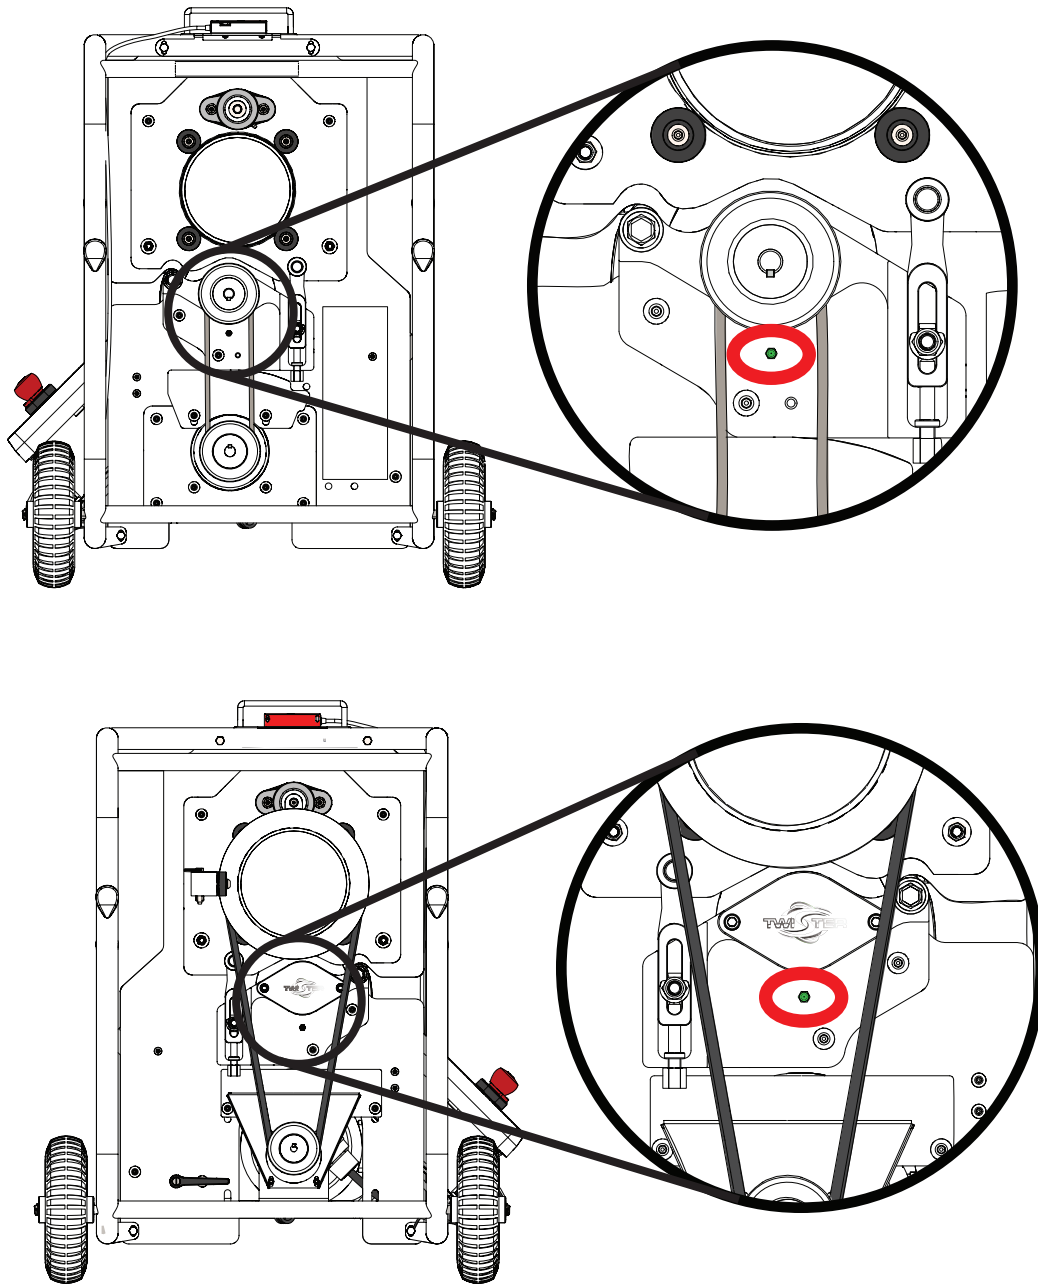

Fig. 44
3. Pump grease into the grease nipples (see Fig. 44):